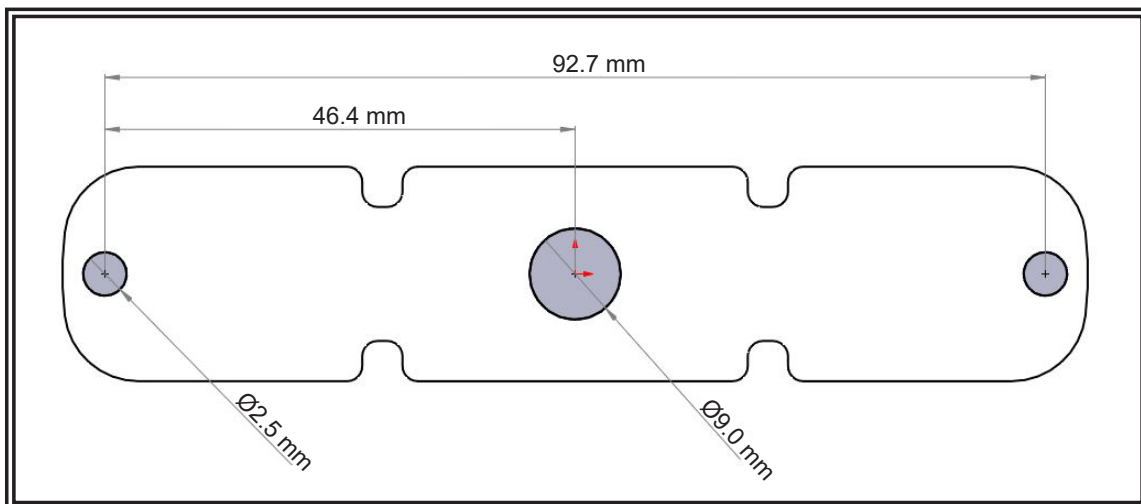

Figure 2
Step 2. Using the long gasket as a template, mark two holes on a flat mounting surface for screw insertion, and a third center hole for cable routing. Drill the two mounting holes using a 2.5mm or #40 bit. Drill the center hole using a 9mm or T bit. See Figure 2.